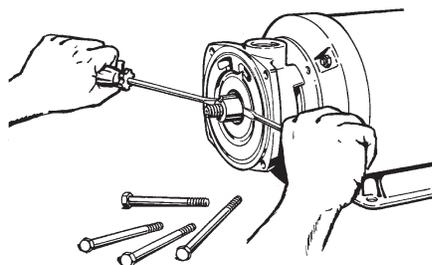

Figure 4-9
- f. Holding the screwdrivers at approximately 3 o'clock and 9 o'clock, push the handles in toward the motor body, using the motor bracket for leverage. Refer to Figure 4-9. This procedure usually does not require excessive force. Care should be taken not to damage the hub or motor shaft.